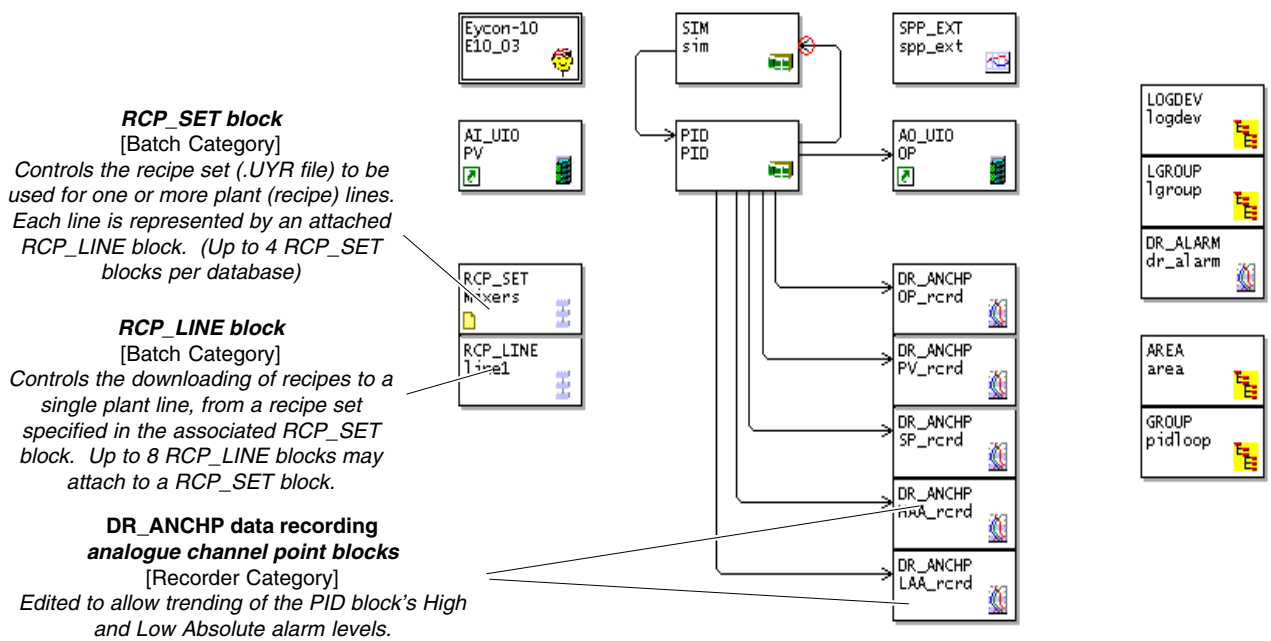

Figure 5-1 Data logging plus recipe strategy (simulated)
Figure 5-1 shows the (simulation) data logging strategy you created in the first part of Chapter 4, but with the setpoint program blocks deleted and some extra function blocks added to allow recipes to be used.
- 1 In the LINTools Engineering Studio, locate the required blocks as shown in Figure 5-1. The quickest way to do this is to open up the existing simulated data logging strategy as your starting-point, by double-clicking its icon in Explorer view.
- 2 In the existing strategy, delete the blocks associated with setpoint programming — which you won't be needing for this part of the tutorial. These are the five blocks named 'spp_ctrl', 'spp_ramp', 'spp_dig', 'stirrer', and 'preplot'. Then add a RCP_SET and a RCP_LINE block (from the Batch category) as shown in Figure 5-1.
Table 5-2 lists the fields that should, as a minimum, be edited from their default values. For completeness, all such fields are shown in the table, including those edited in the original data logging strategy. Note that you must also edit the **Name** fields in all blocks, according to Figure 5-1 if you wish.